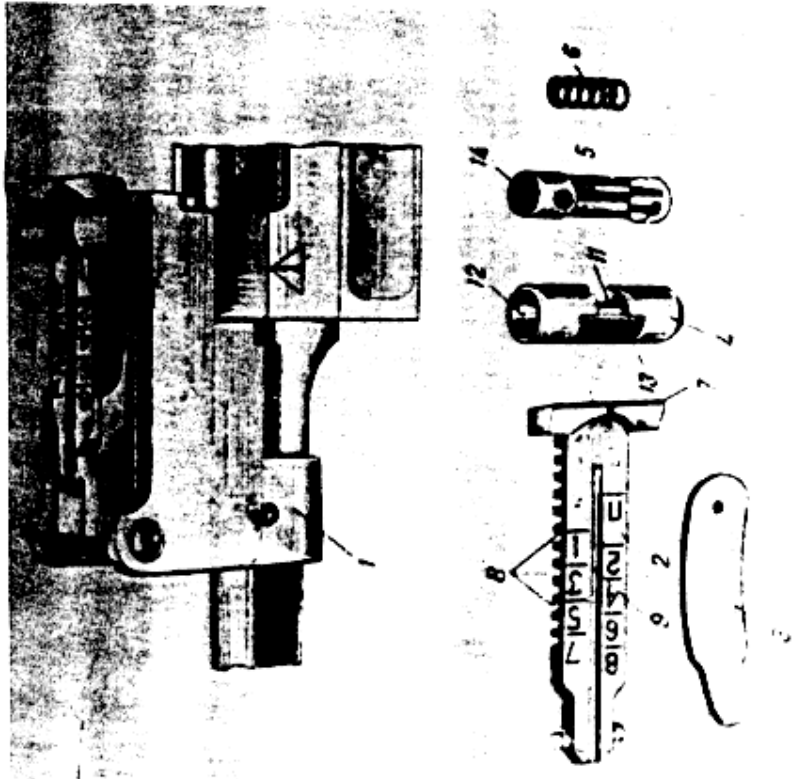

Figure 18. Rear sight, assembled and disassembled.
The rear sight (fig. 18) consists of a base (1), on which there are sectors; sight leaf (2), sight leaf spring (3), slide (4); slide catch (5) and spring (6).
The sight leaf (fig. 18) has odd numbers inscribed on the right side, which correspond to ranges of 100 to 700 meters, and on the left side there are inscribed numbers 2 to 8, which correspond to ranges of 200 to 800 meters. On the left side of the sight leaf is the letter "P". This graduation is the constant (battle) setting of the sight; with this setting, the slide is located as far to the rear as possible.